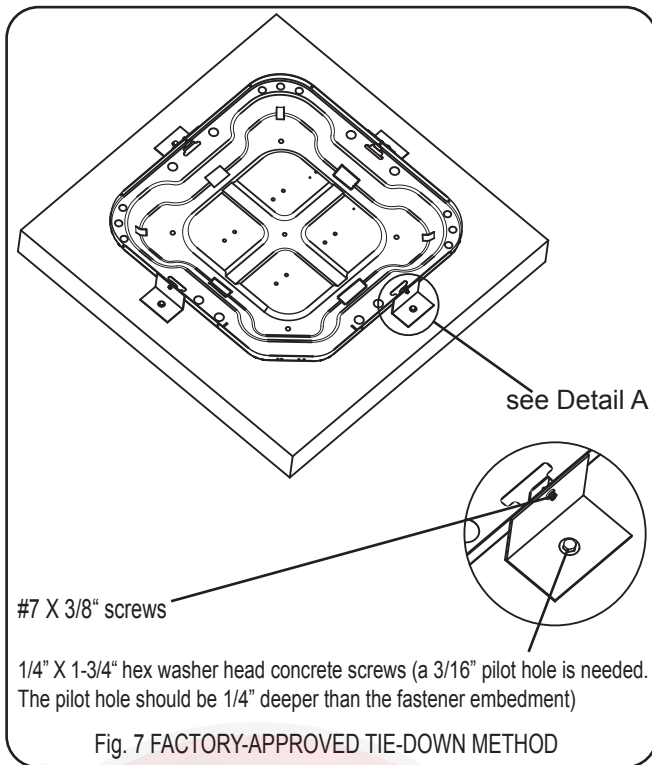

Fig. 7 FACTORY-APPROVED TIE-DOWN METHOD
Step 4: Fasten 4 L-shaped stainless steel braces onto the cabinet base using 4 1/4" * 1/2" hex washer head stainless steel self-tapping screws where indicated by Detail A in Fig.7.
Do not use screws longer than the indicated 1/4" * 2/3" and make sure that the brace is attached on the center of the base bar as indicated in Fig. 7. Damage to the system may otherwise occur .